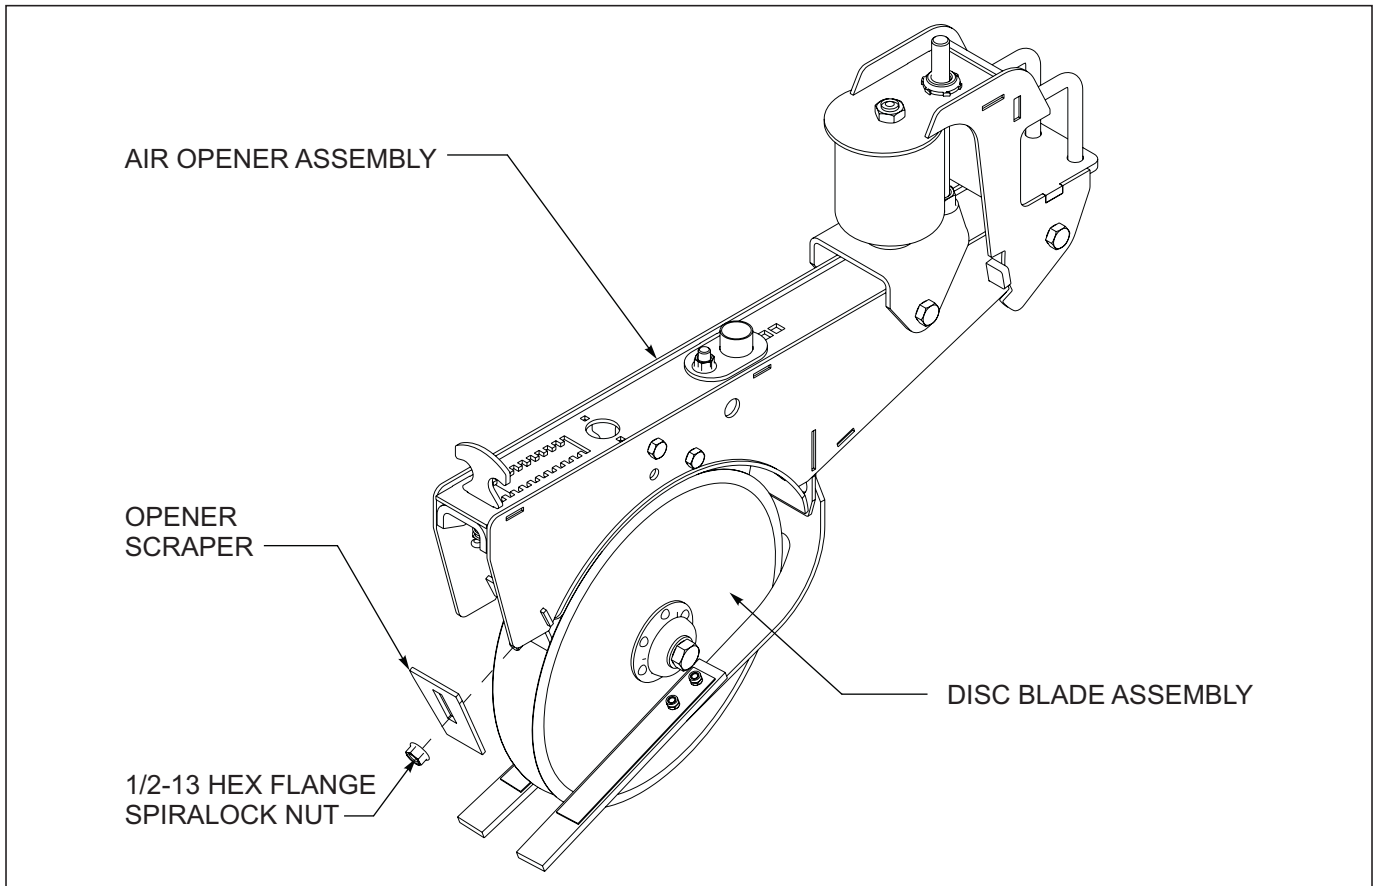

Figure 4-35: Opener Scraper Adjustment
2. To adjust the scraper blade, loosen the 1/2-13 hex flange spirallock nut holding the blade, and slide the blade up or down to achieve the desired clearance **See Figure 4-35**. Re-tighten the 1/2-13 hex flange spirallock nut. Carefully rotate the opener blades to make sure the blades will turn freely and not drag on the scraper.